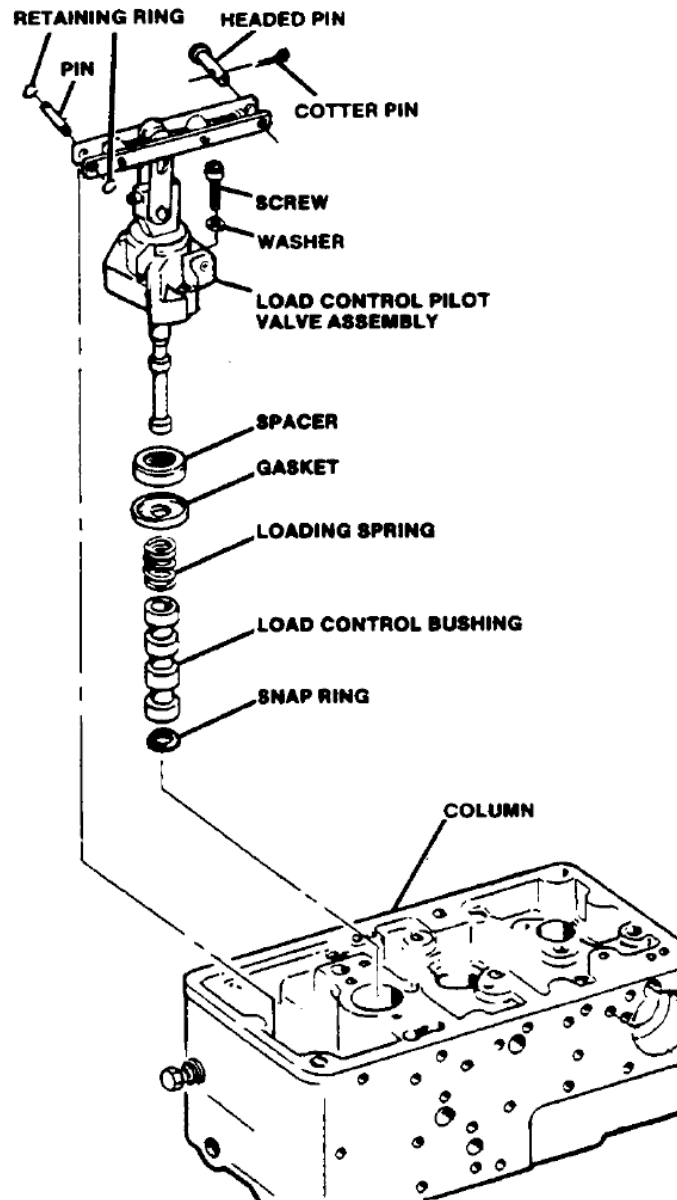

Figure 5-51. Load Control Bushing
- Install snap ring in load control bushing (Figure 5-51).